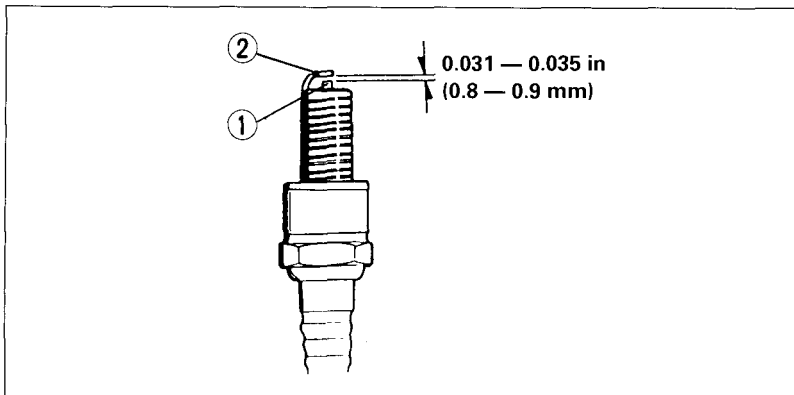

Fig. 4-17
4. Visually inspect the spark plug electrodes for wear. The center electrode (Fig. 4-17) should have square edges, and the side electrode (2) should not be eroded. If the electrodes and insulator tip appear unusually fouled or burned, we suggest that you contact your authorized Honda dealer.